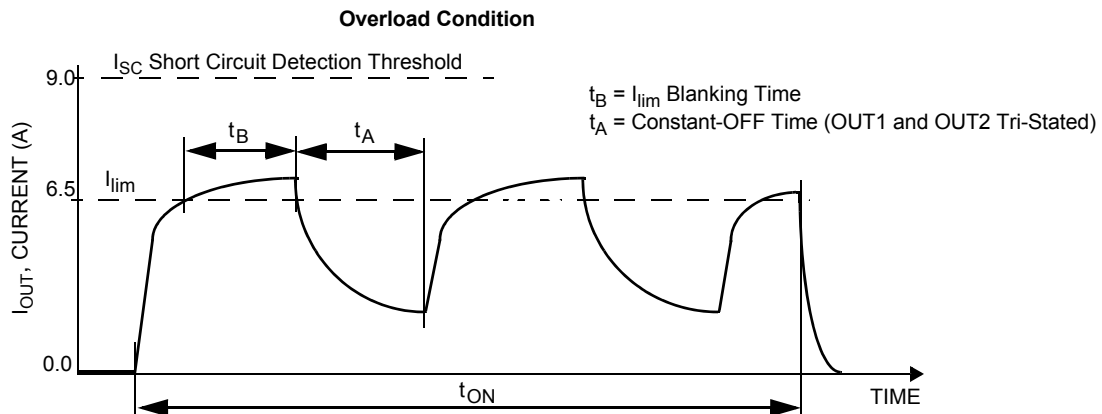
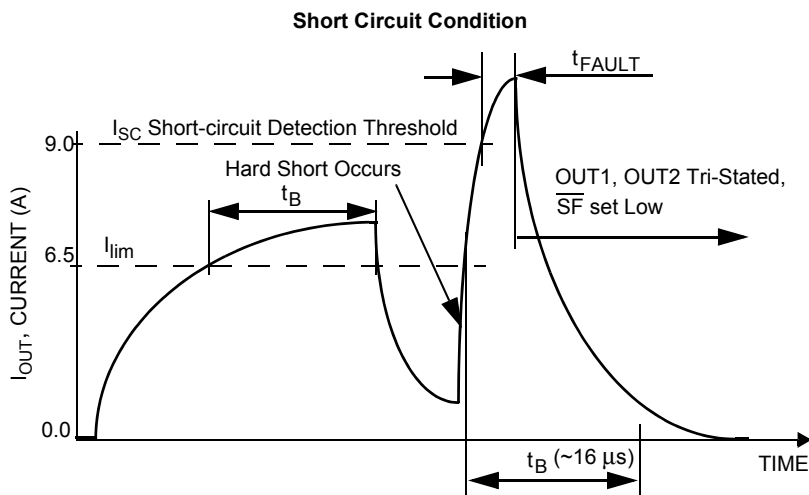
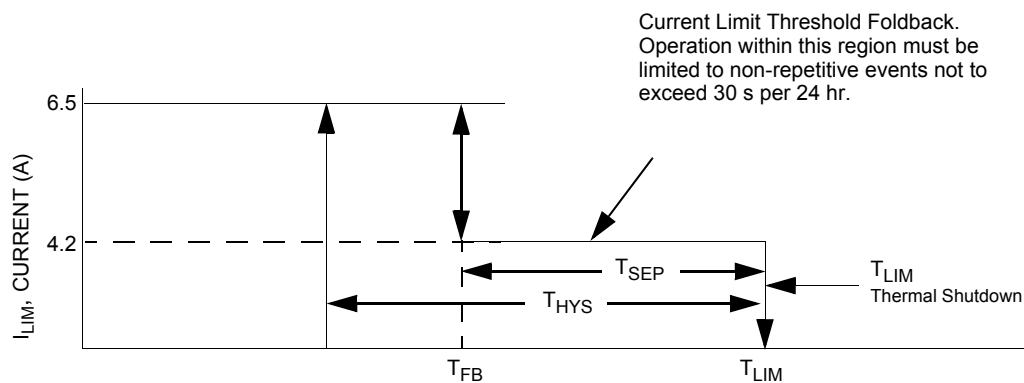

Figure 7. Current Limit Blanking Time and Constant-OFF Time
Figure 8. Short-circuit Detection Turn-OFF Time t_{FAULT}
Figure 9. Output Current Limiting Foldback Region
27. Load currents ramping up to the current regulation threshold become limited at the I_{LIM} value (see Figure 7). The short-circuit currents possess a di/dt that ramps up to the I_{SCH} or I_{SCL} threshold during the I_{LIM} blanking time, registering as a short-circuit event detection and causing the shutdown circuitry to force the output into an immediate tri-state latch-OFF (see Figure 8). Operation in Current Limit mode may cause junction temperatures to rise. Junction temperatures above $\sim 160^\circ\text{C}$ will cause the output current limit threshold to “fold back”, or decrease, until $\sim 175^\circ\text{C}$ is reached, after which the T_{LIM} thermal latch-OFF will occur. Permissible operation within this fold back region is limited to non-repetitive transient events of duration not to exceed 30 seconds (see Figure 9).